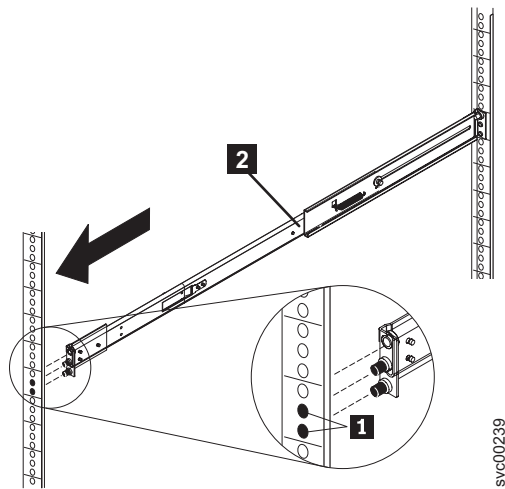

Figure 79. Extending the right slide rail
4. Extend the right slide rail **2** and insert it into the front rack mounting flange, as shown in Figure 79, with the rail pins **1** protruding through the flange. Insert the left slide rail in the same way.